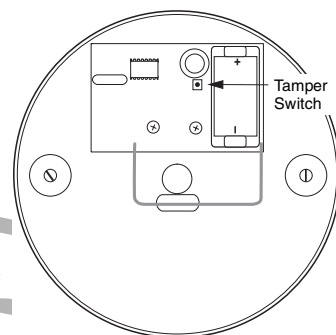

Figure 1. Tamper Switch Location
4. When the panel prompts you for a sensor group number, enter the fire group number (26).
6. When the panel prompts you to trip the sensor, press and release the tamper switch on the sensor (Figure 1). System sirens beep indicating successful programming.